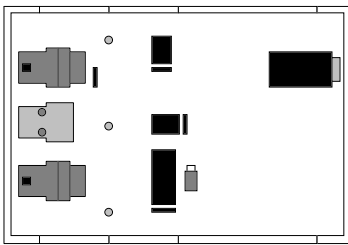

Figure 1
2. Connect the 4-wire cable (CM057375U040) to the RS-232 serial port on the main control board. Be sure to route the cable to permit the control door to be opened (see figure 1).